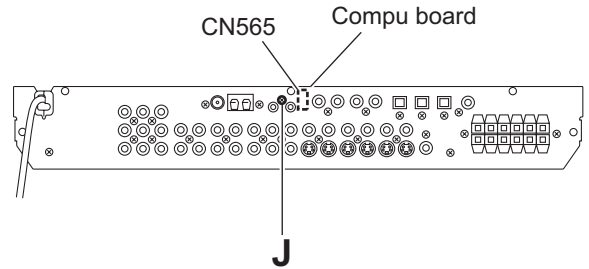

Fig.10
3.7 Removing the compu board (See Fig.10)